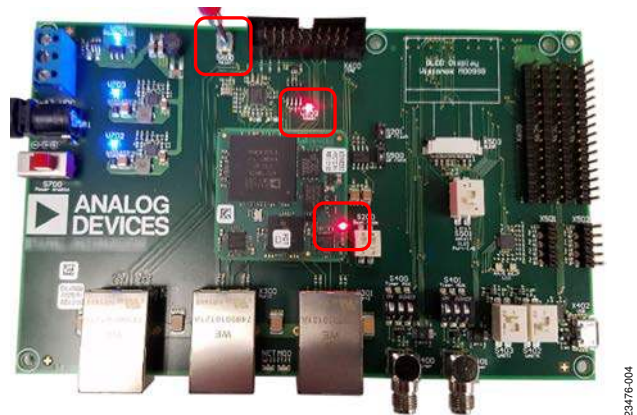

Figure 4. Reset Switch Location and Reset LEDs
3. If it is necessary to reset the evaluation board, press the Reset switch, which illuminates two red LEDs, as shown in Figure 4.